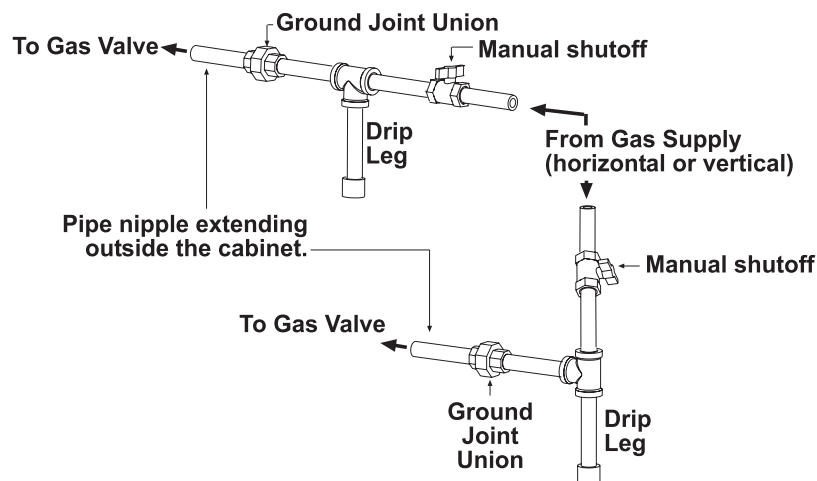

Figure 17. Supply Piping Connections
- Install a ground joint union and manual shutoff valve upstream of the unit control system, as shown in Figure 17.
- The 1/8-inch plugged tapping in the manual shutoff valve in Figure 17 provides connection for a supply line pressure test gauge.
- The *National Fuel Gas Code* requires the installation of a trap with a minimum 3-inch drip leg (see Figure 17). Local codes may require a drip leg longer than 3 inches (typically 6 inches).